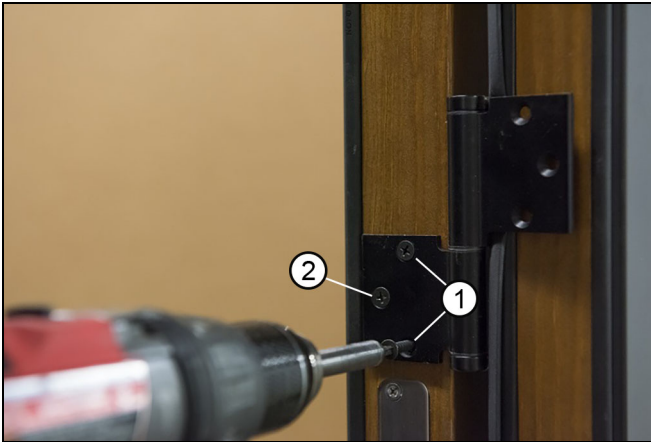

Figure 65
2. Line up the handle with the pre-drilled holes. Attach the handle with the screws provided. See Figure 65.